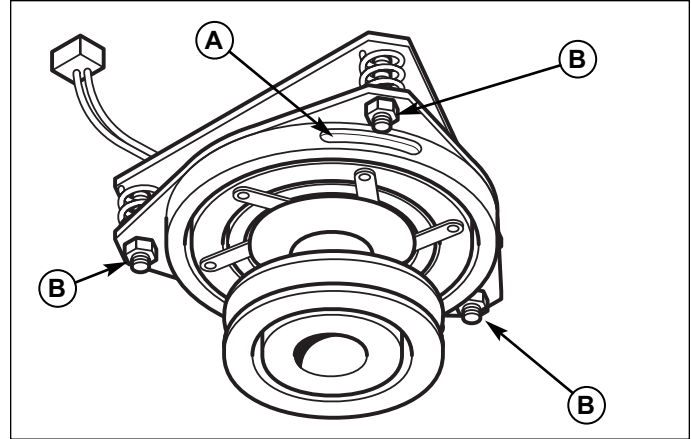

Figure 39. PTO Clutch Adjustment
2. See Figure 39. Note the position of the three adjustment windows (A) in the side of the brake plate and the nylock adjustment nuts (B).
4. Alternately tighten the adjustment nuts (B, Figure 39) until the rotor face and armature face just contacts the gauge.